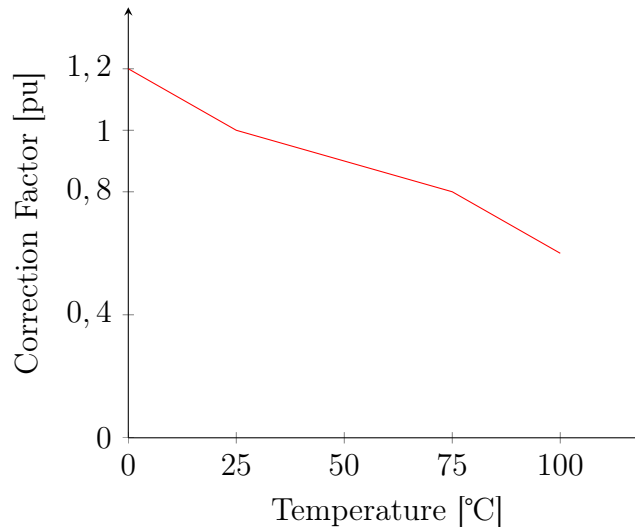

Figure 2: Correction factor vs Temperature
- *P-TCurve*: Correction factor curve of the PV array per unit of *P_{mpp}* as a function of the PV array temperature. As can be seen in Figure 2, the correction factor should be 1.0 for the temperature at which *P_{mpp}* is defined, in this case 25 °C. The PV array generates its rated maximum power, *P_{mpp}*, when operating at that temperature, 25 °C, and with 1 kW/m^2 irradiance. To define this curve in OpenDSS, the user must use the XYCurve object, as shown below.